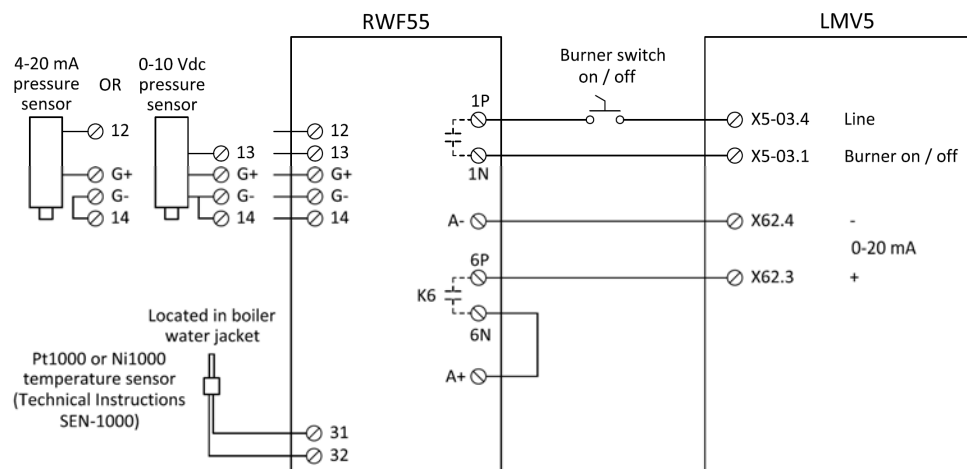

Figure 4: Low Fire Hold via Analog Output on a Steam Boiler
3. Wire the LMV5 and RWF55 as shown in Figure 4: